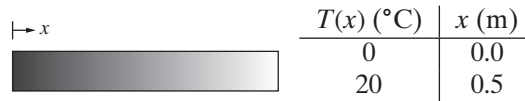

Figure P1.16 Temperature distribution in a well-insulated axial rod in problem P1-16.
- 1-16.** The temperature distribution in a well-insulated axial rod varies linearly with respect to distance when the temperature at both ends is held constant as shown in Fig. P1.16. The temperature satisfies the equation of a line $T(x) = C_1 x + C_2$, where C_1 and C_2 are constants of integration with units of $^{\circ}\text{C}/\text{m}$ and $^{\circ}\text{C}$, respectively.